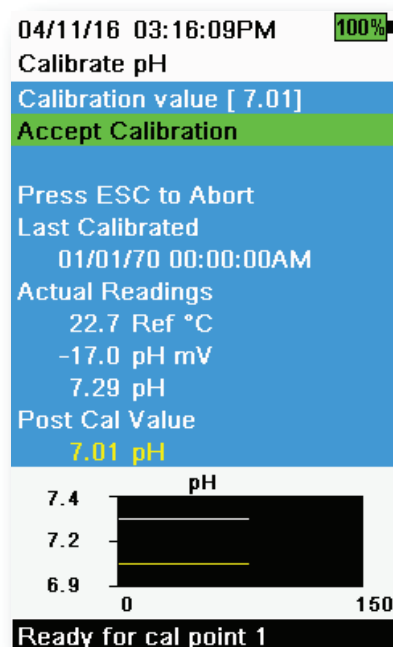

Figure 51 Calibrate pH 1-point
6. Observe the actual measurement readings for stability (white line on graph shows no significant change for 40 seconds), then select **Accept Calibration** (Figure 51). "Ready for cal point 2" will be displayed in the message area.